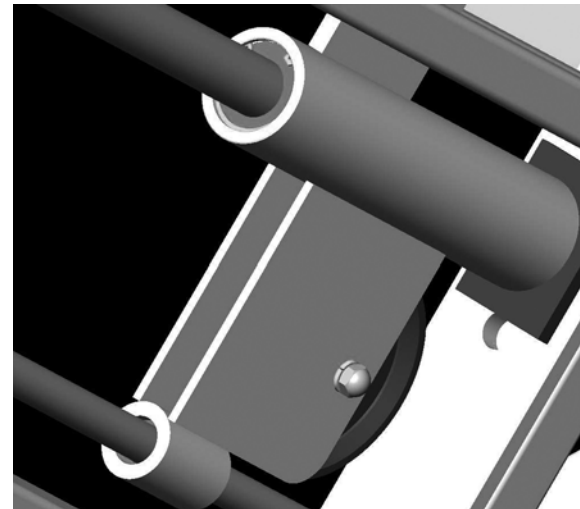

Figure 10: Shows a typical location of a linear bearing in its housing
- **Linear Bearings:** Case hardened guide rods are used in areas that use linear bearings (refer to Figure 10). Inspect each end of the rod to ensure they are fastened correctly and all bolts are tight.